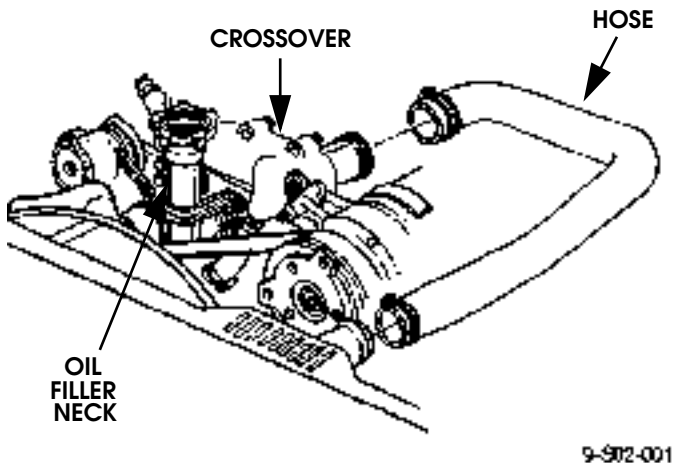

Figure 2-22: Upper Radiator Hose Connections
9. Disconnect heater, bypass and inlet hoses at water pump and coolant crossover (Figure 2-22).
10. Remove oil filler neck and coolant crossover (Figure 2-22).